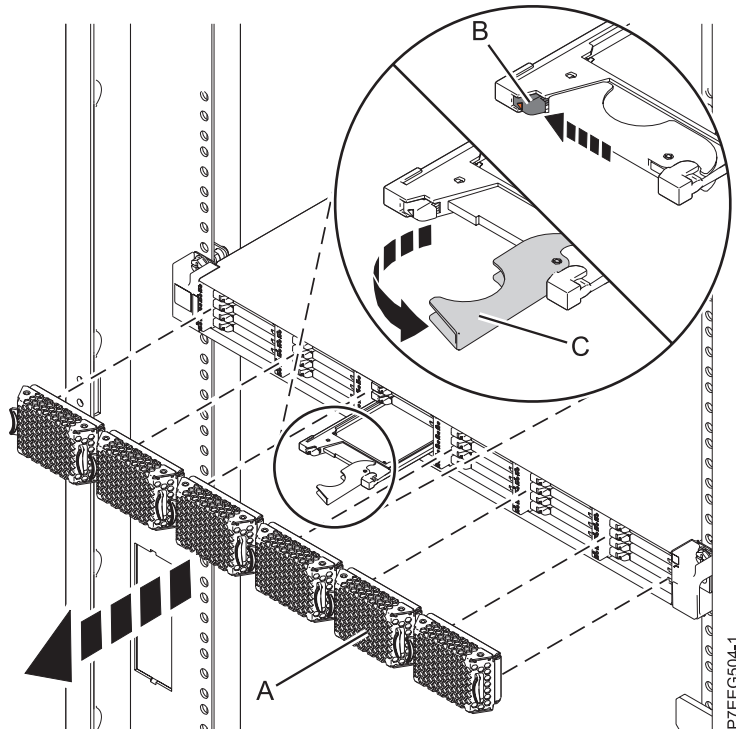

Figure 22. Removing the solid-state drive from the EDR1 PCIe storage enclosure
4. Pull off the bezel (A) that covers the slot that contains the solid-state drive.
5. When the solid-state drive identify LED turns on solid, slide the release latch (B) over gently to unlock the drive handle. See Figure 22 on page 37.
6. Grasp the handle (C) and pull the drive partially out of the slot.